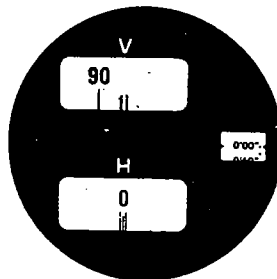

Fig. 21
- Loosen the horizontal clamp ⑫ and the lower clamp ⑬ and hold the upper alidade lightly. Turn the circle positioning ring ⑭ until the 0° button ① is aligned with the 0° index ②. Graduation 0° appears in the H window.
- Tighten the horizontal clamp ⑫ and turn the horizontal fine motion ③ until the index line bisects the 0° double line, Fig. 21.